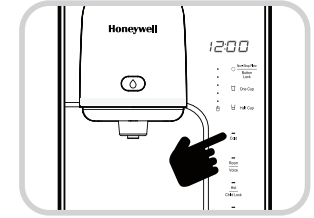

Fig. 3
1. Check if the Cold Display Lamp is ON and press the Cold button. (Fig. 3).
- Keep pressing the Out Flow button for two (2) seconds or longer to turn the out flow into Manual Out Flow status.